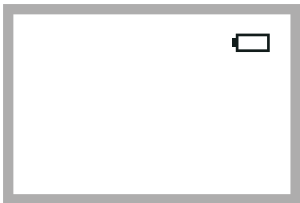

Figure 9
1. Replace battery when "  " appears in the upper right corner of LCD display. (See Figure 9)